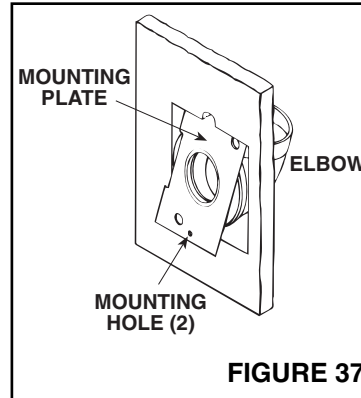

FIGURE 37
3. Refer to Figure 37. Glue elbow to mounting plate, place assembly into cutout, and attach elbow to tubing inside the wall.